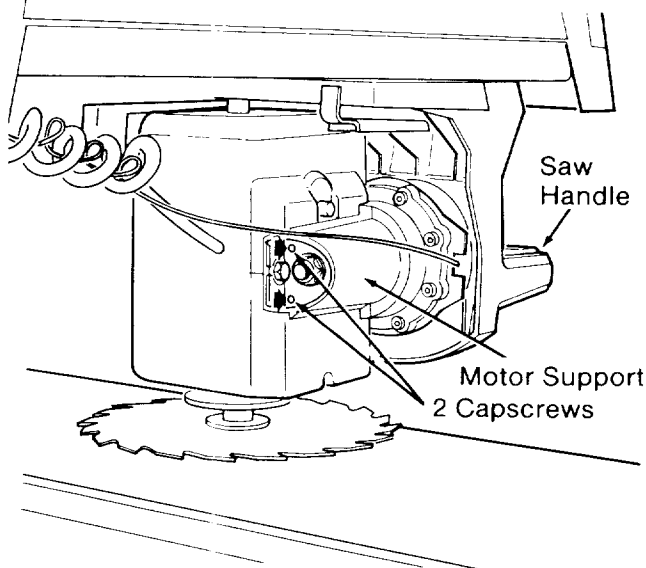

Fig. 87
10. Loosen the two screws on the back of the *motor support* using a 1/8 inch hex-L wrench and pliers if necessary. (Figure 87)